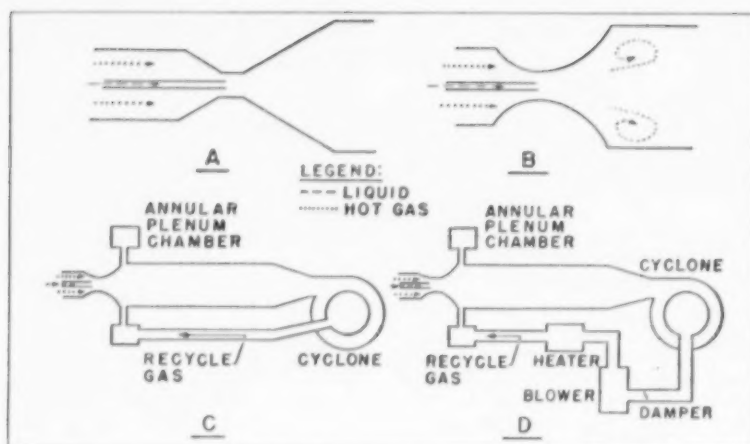

Fig. 6. Early jet spray dryer designs.
A number of dryer designs were built and tested prior to the present successful design. A brief discussion of these earlier models and the features that caused them to be unsuccessful is of value in clarifying the essential features of the present design. These earlier designs are shown diagrammatically in Figure 6. In design A a modification of the high-velocity vaporizer (10) originally used for the evaporation of a pure liquid to produce smokes and aerosols was tested (14). The chief difficulty encountered here was the excessive deposition of solid on the walls of the diffuser section downstream from the point of feed injection. An attempt was made to avoid this difficulty by changing the shape of the diffuser section in accordance with the work of Conroy (11) on the atomization of liquid sulfur in a sulfur